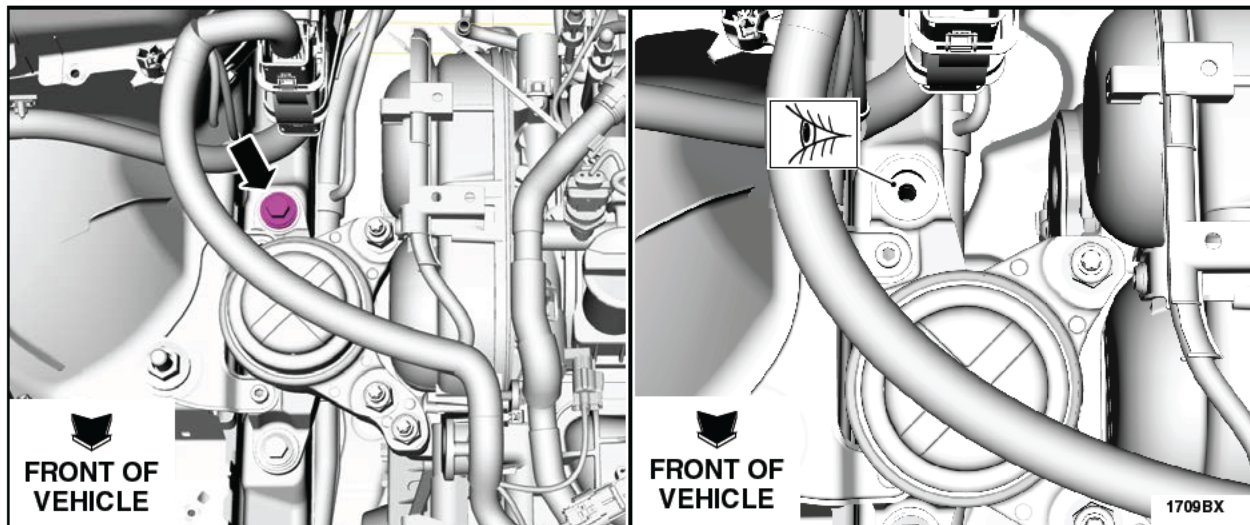

FIGURE J1
1. Remove the rear engine mount bolt and take note of the bolt hole location. The bolt hole must be centered with the engine mount hole to allow for proper installation of the coolant stand-pipe bracket. See Figure J1.